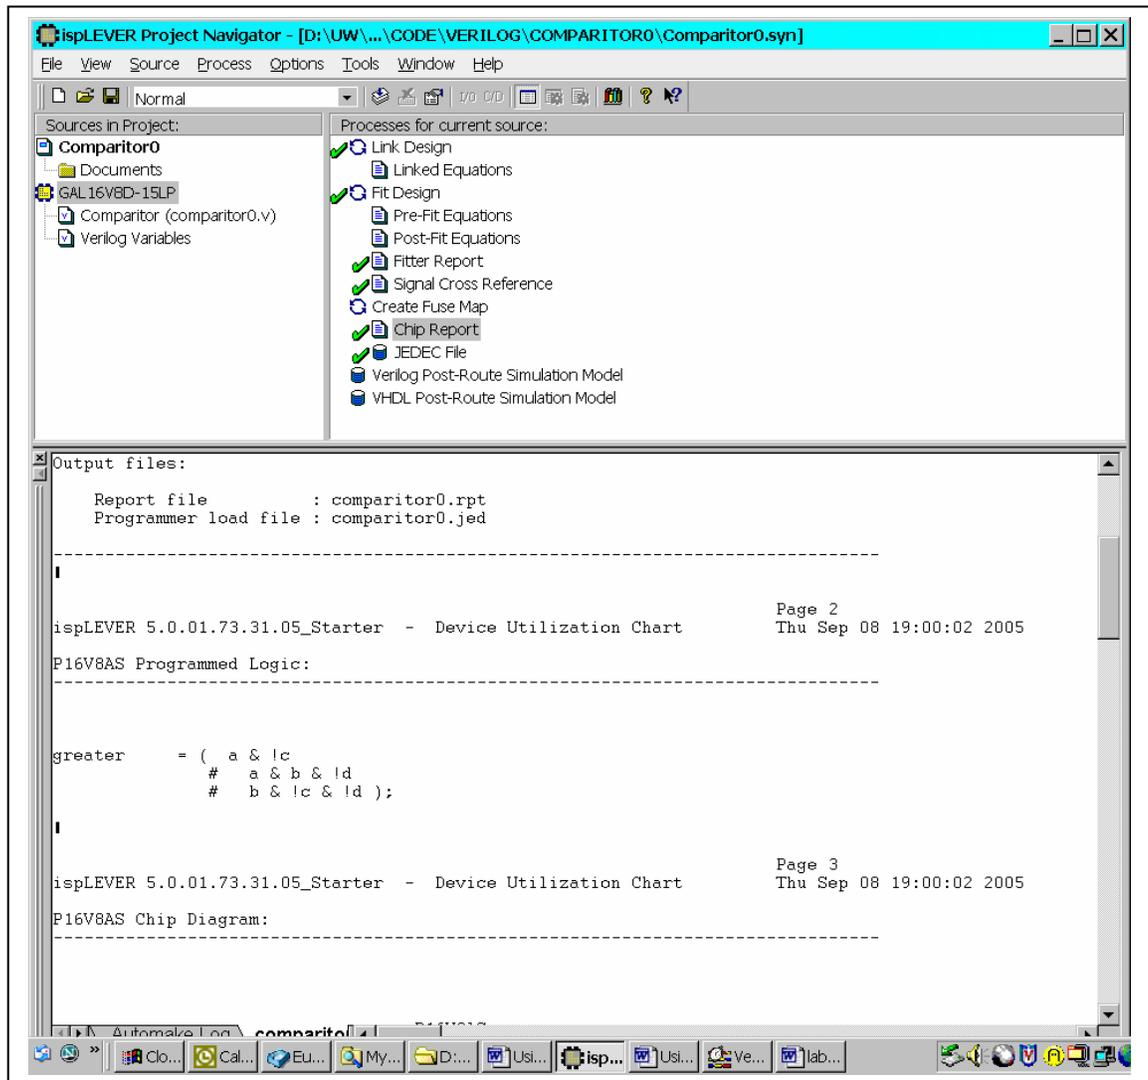

Figure 11
3. Scroll down and you'll see the equations that were created for your design as in Figure 11